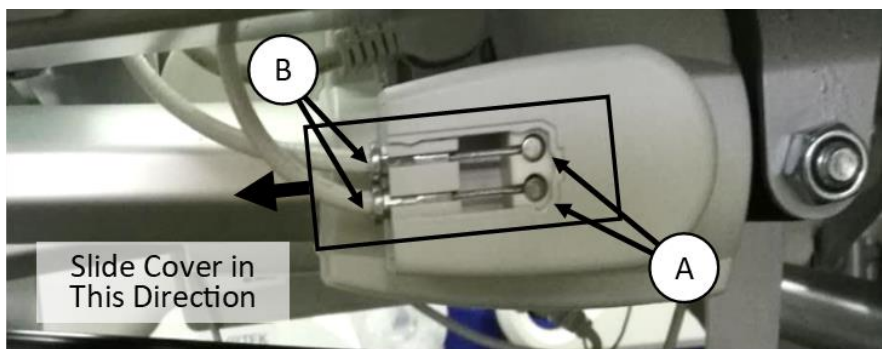

Figure 19: Backrest Actuator CPR release cables connection
- Using a small flat screwdriver or similar, slide open actuator CPR release cable cover in direction of arrow as shown on figure 19 and remove inner cable ball end (A) followed by cable outer housing (B).
- Remove cable from backrest actuator by sliding the cover (A) off the CPR cable housing on the side of the actuator. Lift the ball end of the cable (B) out of the housing and remove the CPR cable – refer subsection 25, figure 19.
- Insert CPR release cable outer into actuator cable recess followed by inner cable ball end and slide housing cover into position – refer subsection 25, figure 19.
- Feed the CPR release cable outer through the tensioning plate located just behind the release lever and loosely thread the outer cable end lock nut (B).
- Attach the inner cable loop to the CPR release lever and secure in position with a new Nyloc nut (A).
- Adjust the two lock nuts (B) on the CPR release cable outer to obtain satisfactory operation of the release mechanism.